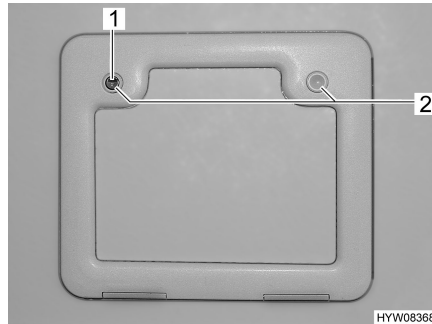

Fig. 12 External flap Thetford cassette
- Insert key into locking cylinder (Fig. 12,1) of the push-button lock and turn a quarter turn.
- Press both push-button locks (Fig. 12,2) simultaneously with your thumb and open the external flap.
- Insert key into locking cylinder (Fig. 12,1) and turn a quarter turn.